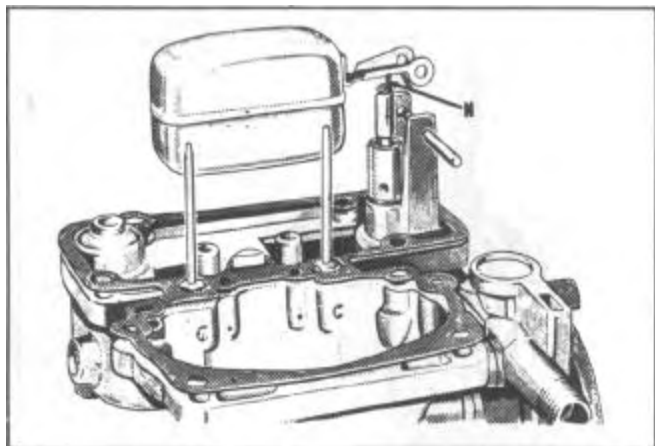

FIGURE 76
to float lip at (N), Figure 76, then lower needle into seat until float and lever line up with holes and install float lever pin. (Set float to specifications, Page 4-15 and install new bowl cover gaskets.)